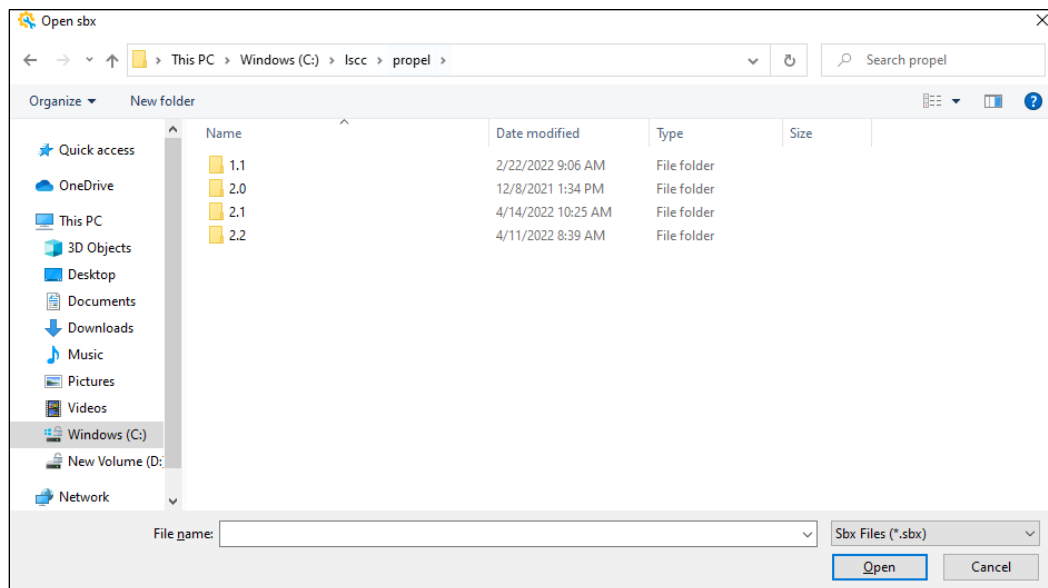

Figure 2.16. Open Sbx Dialog
11. Click **Finish**. Propel Builder GUI opens (Figure 2.16).
1. Choose **File** >  **Open Design** from Propel Builder GUI Menu, or Click **Open Design** icon  from Propel Builder Toolbar. The Open sbx dialog opens (Figure 2.16).